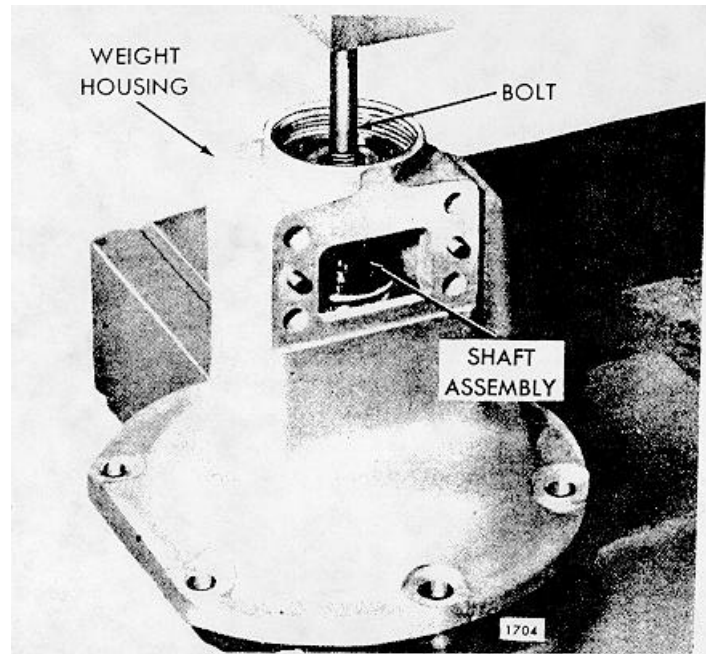
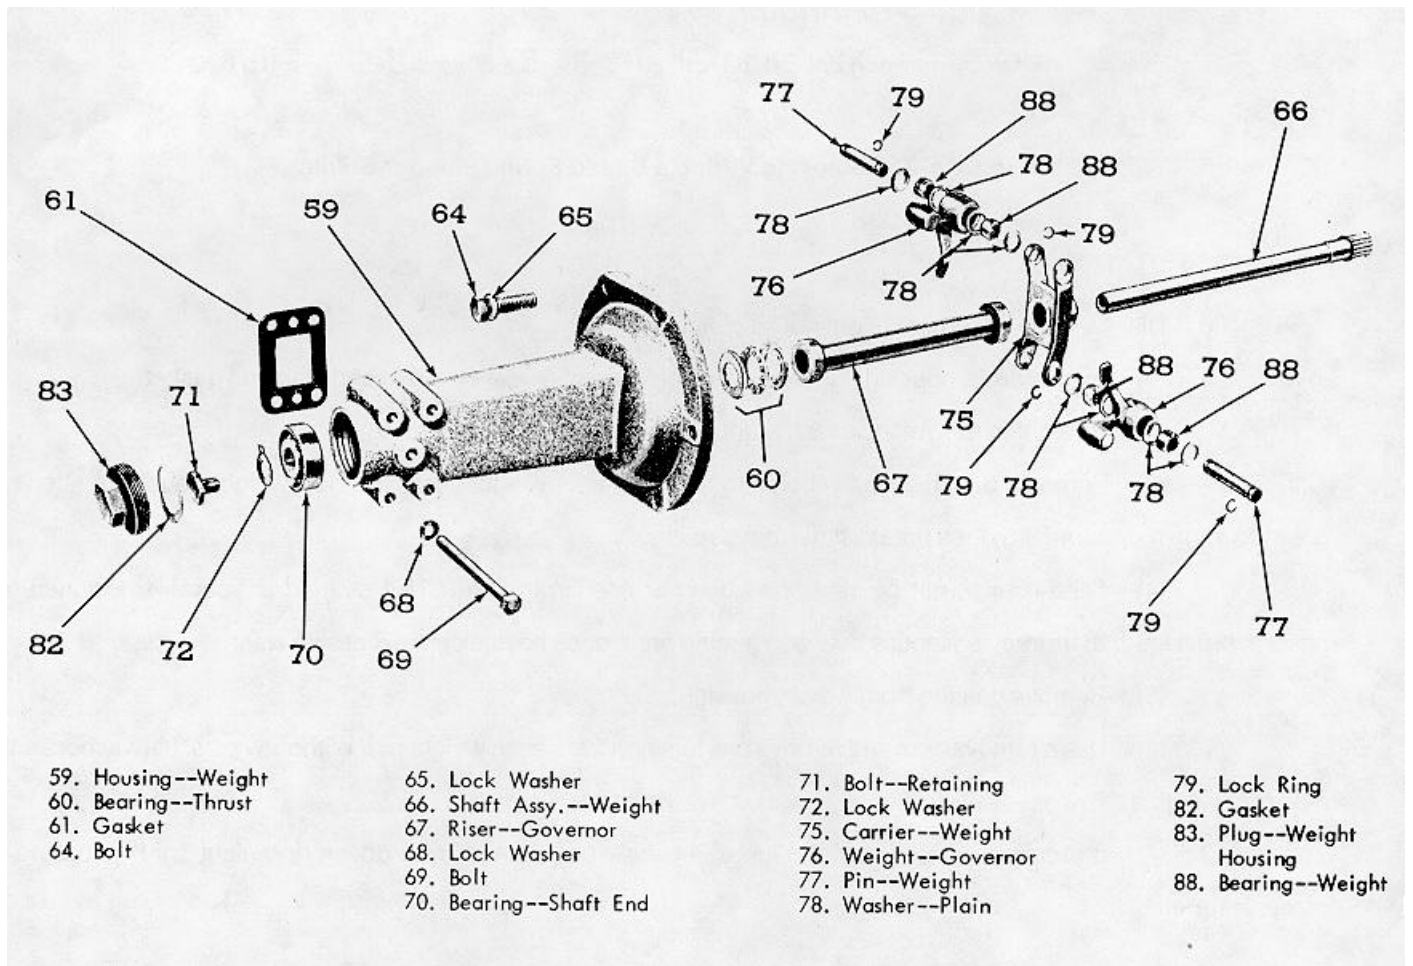

Figure 6-4. Governor Weight Housing Details.
Figure 6-5. Remove Governor Weight and Shaft Assembly.
- (1) Place weight housing (Figure 6-4) in soft jaws of a vise. Remove end plug and gasket.
- (2) Straighten tang of lockwasher and remove bearing retaining bolt.
- (3) Thread a 5/16in-24 x 3in bolt into tapped end of weight shaft. Support weight housing on bed of press as shown in Figure 6-5, then press shaft from bearing.
- (4) Slide riser thrust bearing and governor riser from shaft. This bearing is specially designed to absorb thrust load; therefore, looseness between mating parts does not indicate excessive wear.
- (5) Remove bearing from weight housing.
- (6) Use a removal tool and remove one lockring from each weight pin. Withdraw pins, flatwashers and governor weights.
- (7) If required, weight carrier (Figure 6-4) may be pressed from governor weight shaft and a new carrier installed.
(1) Install lockring (Figure 6-4) in groove of weight pin. Place flatwasher over pin and against lockring.
(2) Start pin through opening in weight carrier. Place second washer over pin and against projecting arm of weight carrier.
(3) Position governor weight between projecting arms of weight carrier. Push pin through governor weight. Place third flatwasher over pin and against weight.
(4) Push pin completely through weight carrier and place fourth flatwasher over pin and against projecting arm of weight carrier. Install second lock ring in groove of weight carrier pin.
(5) Install second governor weight as outlined in steps (1) through (4).
(6) Slide riser over shaft and against finished surfaces of governor weights.
(7) Assemble riser thrust bearing on weight shaft with bearing race having smaller inside diameter against thrust riser. Incorrect installation of bearing will result in erratic operation of governor.
(8) Insert weight carrier and shaft assembly in weight housing.
(9) Support splined end of shaft on bed of an arbor press. Start shaft end bearing in housing and over end of shaft with the numbered side of bearing facing away from shaft. Press bearing in place with a sleeve that bears against inner race.
(10) Place a washer (Figure 6-4) over bearing retaining bolt. Thread bolt into tapped end of shaft and tighten it. Bend tang of washer against head of bolt.
(11) Place gasket in housing and against bearing. Apply a Loctite sealant, grade HV, or equivalent, to full 360° circumference of end plug and thread plug into tapped end of governor weight housing. Tighten plug to 45 lb-ft torque with either flat or point of head on a horizontal line.